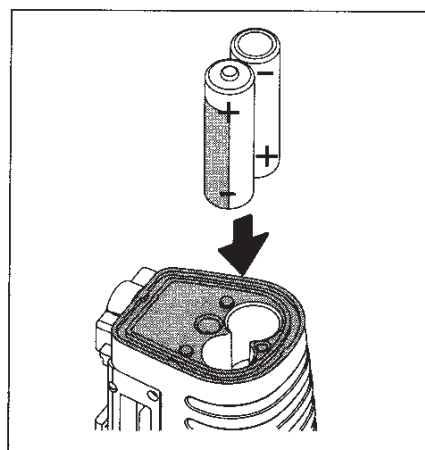

Figure 2
4. Insert two batteries with the correct polarity as indicated by the polarity marks inside the chamber (see Figure 2).